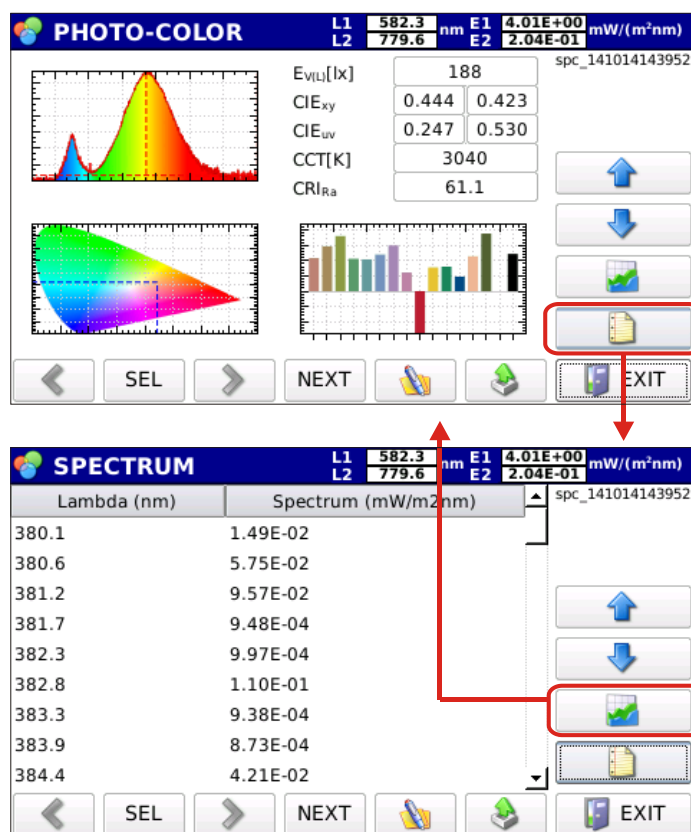

Fig. 4.17: Spectral irradiance data in text format
4.6 Press  to display (fig. 4.17) the spectral irradiance data in steps of 1 nm,